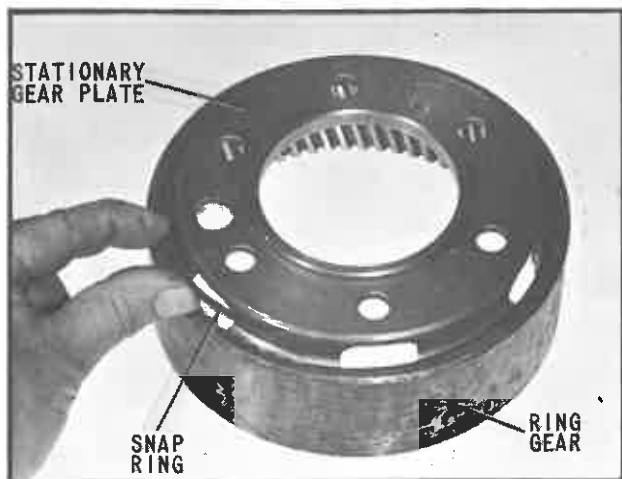

Fig. 20 Assembling Stationary Gear Plate and Ring Gear
7. Remove the snap ring and separate the stationary gear plate and ring gear, (Fig. 20).
10. Install the stationary gear plate into the ring gear until it rests against the shoulder as shown in (Fig. 20).
11. Install the snap ring firmly into groove of the ring gear (Fig. 20).